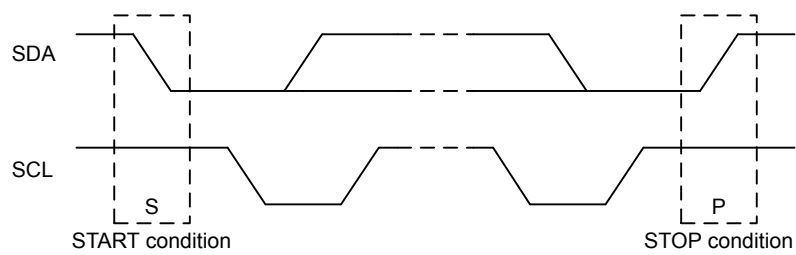

Figure 17.4. I2C START and STOP Conditions
START and STOP conditions are used to initiate and stop transactions on the I²C-bus. All transactions on the bus begin with a START condition (S) and end with a STOP condition (P). As shown in Figure 17.4 I2C START and STOP Conditions on page 482, a START condition is generated by pulling the SDA line low while SCL is high, and a STOP condition is generated by pulling the SDA line high while SCL is high.